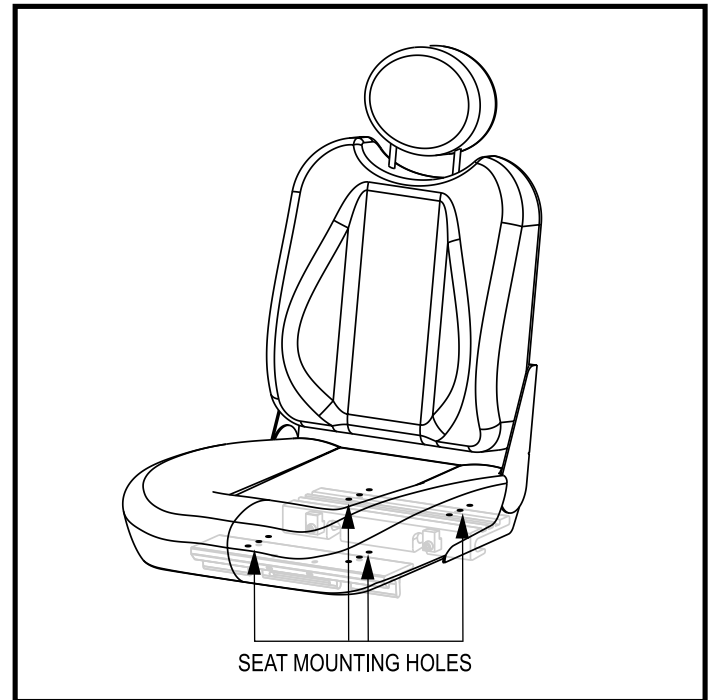

Figure 17. Seat Position Adjustment
6. Reposition the extrusions on a different set of mounting holes. You must move both extrusions the same number of holes either forward or backwards. See figure 17.